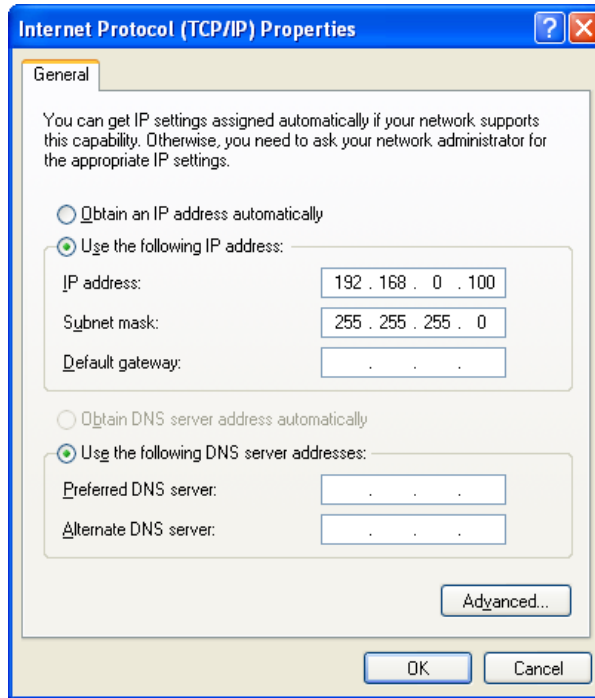

Figure 2-2: Select Network Protocol Dialog
- Click the "Use the following IP address" radio button (Figure 2-2). The IP Address, Subnet Mask, Default Gateway, Preferred DNS server and Alternate DNS server fields, which are grayed-out, become active.